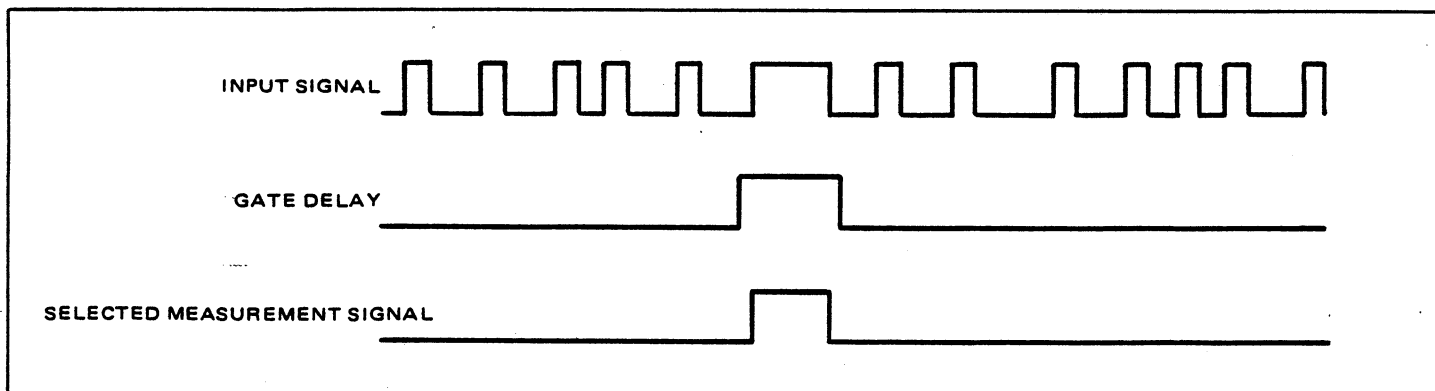
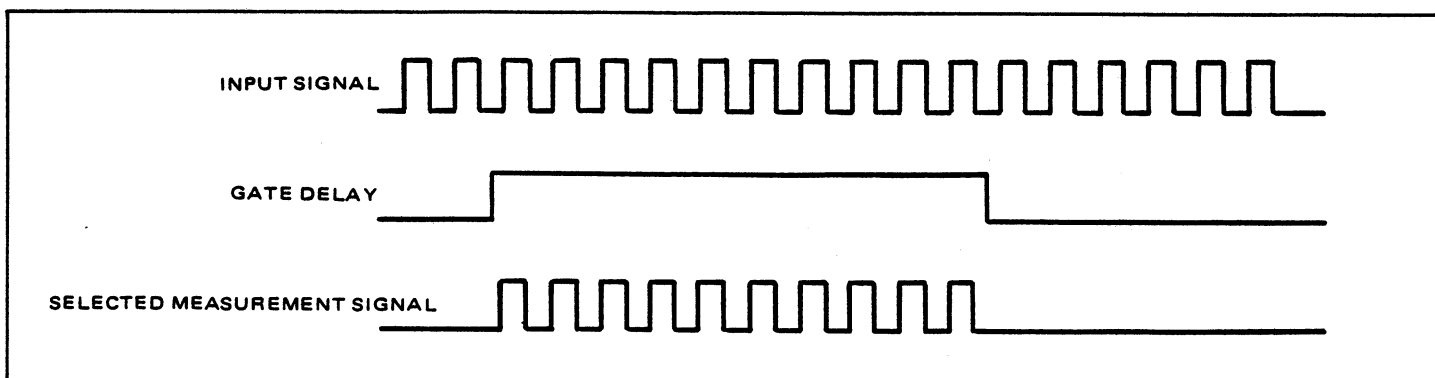

Figure 2.9 - Synchronous Window Control Mode, Single Pulse Window
Figure 2.10 - Synchronous Window Control, Multiple Pulse Window
2.13.4.1 In order to select a discrete pulse or group of pulses out of a wavetrain for measurement it is necessary to be able to synchronize the measurement gate with the pulse to be measured. The Synchronous Window Control mode provides this capability. In addition, it enables the user to use the auto trigger and pulse parameter features of the Series 9000A Counter when measuring a selected pulse. In this mode the measurement gate will not open until the gate delay control signal is true. When the gate delay is enabled the measurement gate will open and close under control of the measurement signal as shown in Figures 2.9 and 2.10. Figure 2.9 illustrates a gate delay encompassing a single pulse while Figure 2.10 shows the gate delay set to